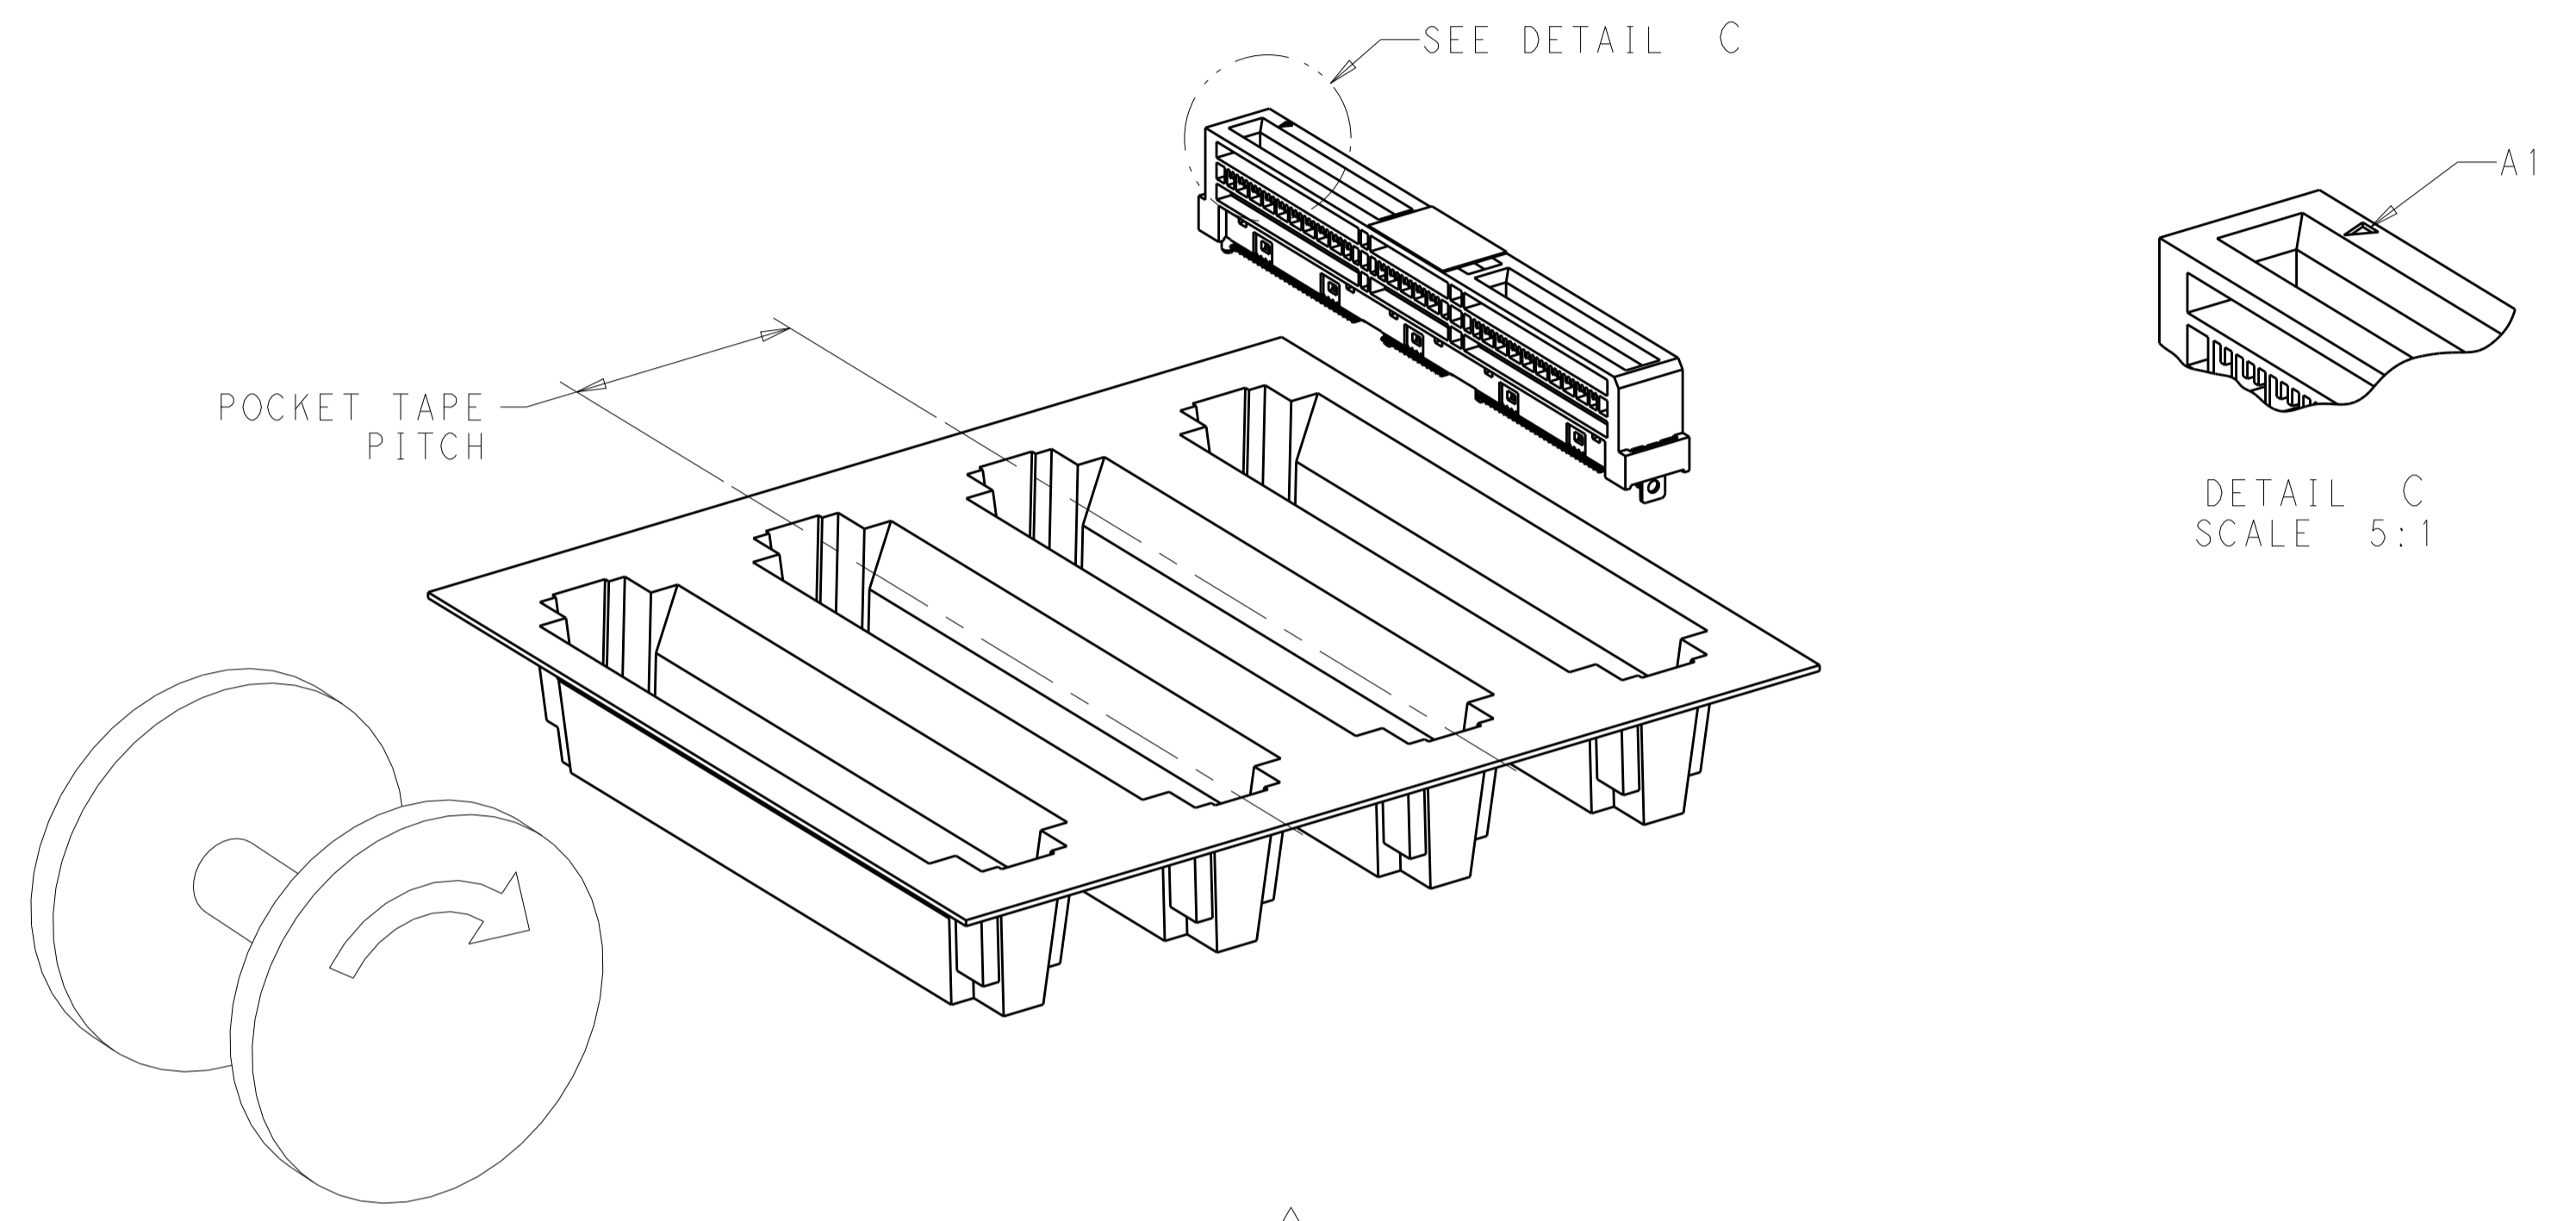

FIGURE 1 $\triangle 8$
- 8 TAPE AND REEL PACKAGED FOR PICK AND PLACE SMT PROCESSING, SEE FIGURE 1. POCKET TAPE WIDTH = 72.